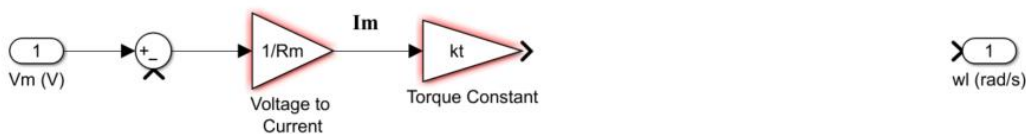

Figure 2: Incomplete Qube-Servo 3 Model.
3. Implement the partial solution shown in Figure 2. While modeling you'll need a few **Gain** blocks, a **Subtract** block and an **Integrator** block (to go from acceleration to speed). The subsequent steps will highlight important components in your model.
- a. It may help to write a short MATLAB script that sets the various system parameters in the workspace so that they can be used by the Simulink model. For example, Figure 2 uses  $R_m$  for motor resistance and  $k_t$  for the current-torque constant as shown below: